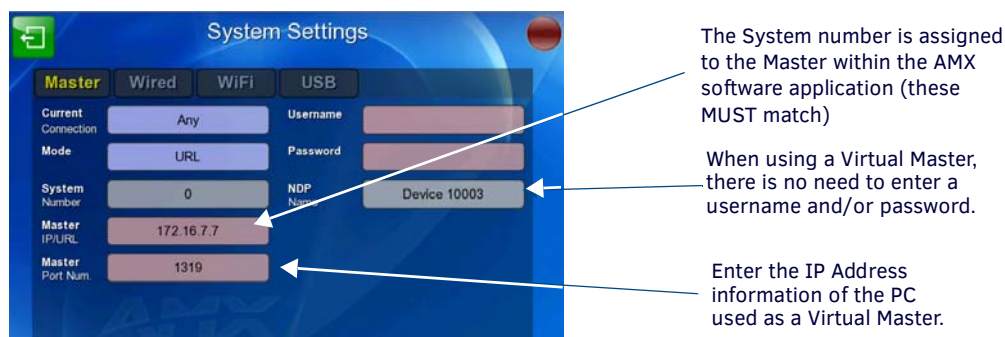

FIG. 41 Sample System Settings page (for Virtual Master communication)
13. Select **Protected Setup > Network** to open the *System Settings* page and *Master* tab (FIG. 41).